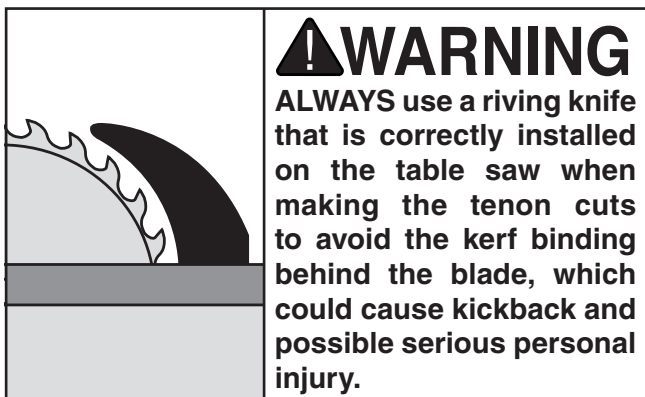

Figure 24. Making the first cheek cut.
Note: Remember to allow for the width of the kerf when aligning the workpiece. Also, keep the cuts close to the side support backing board, as shown in **Figure 24**, to support the waste piece and reduce the risk of it breaking off during the cut.
- Firmly grasp **both** handles of the jig, then slowly slide the jig and workpiece through the blade to make the first structural cheek cut (see **Figure 24**).